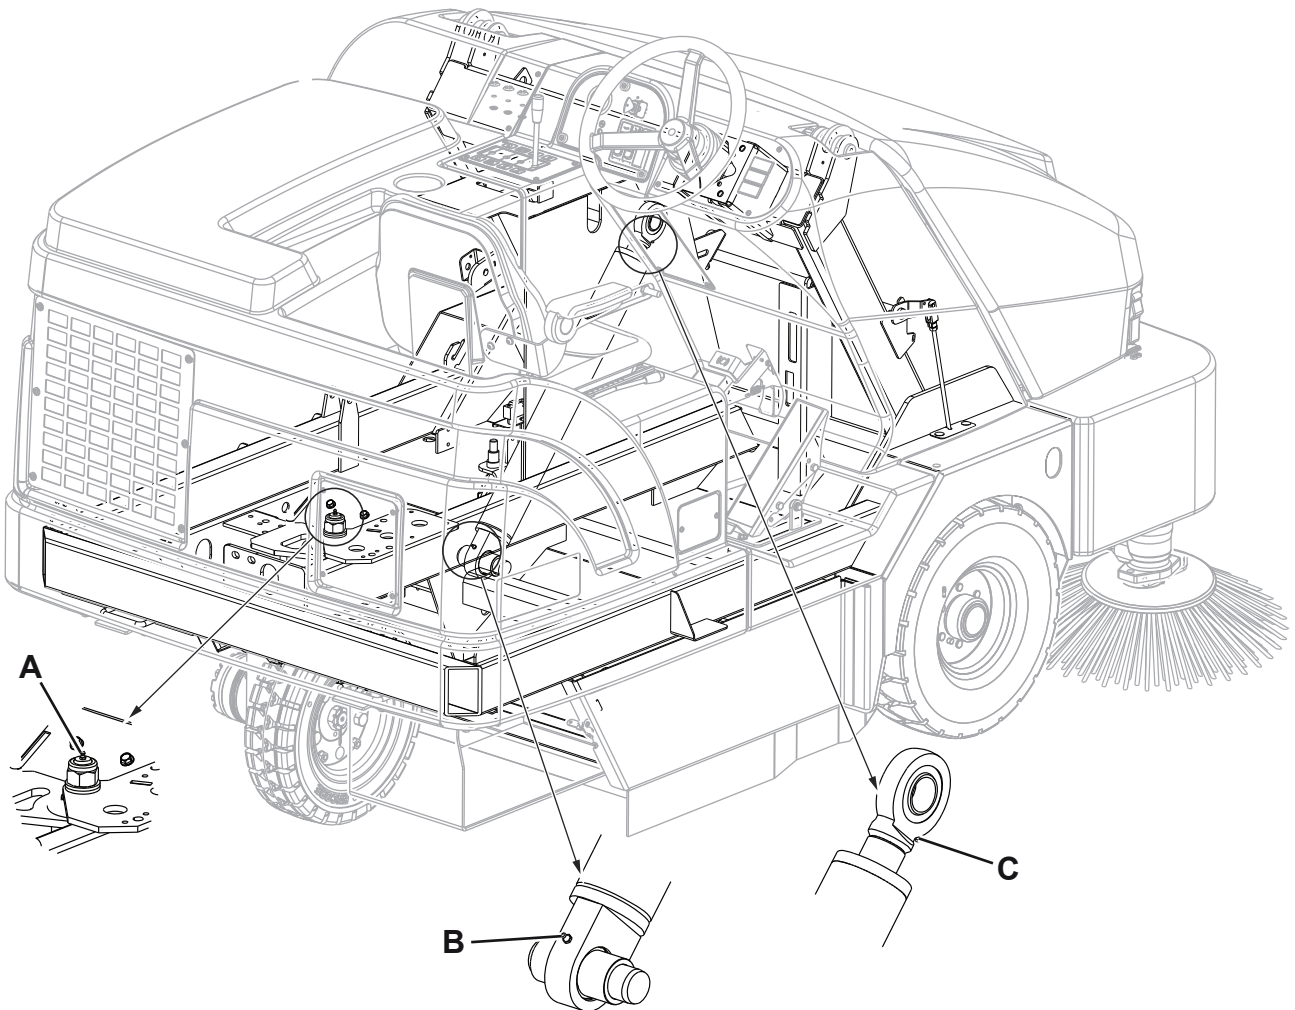

Figure 2
- Steering wheel axle (A, Fig 2)
- Hopper lifting cylinder lower end (B)
- Hopper lifting cylinder upper end (C)